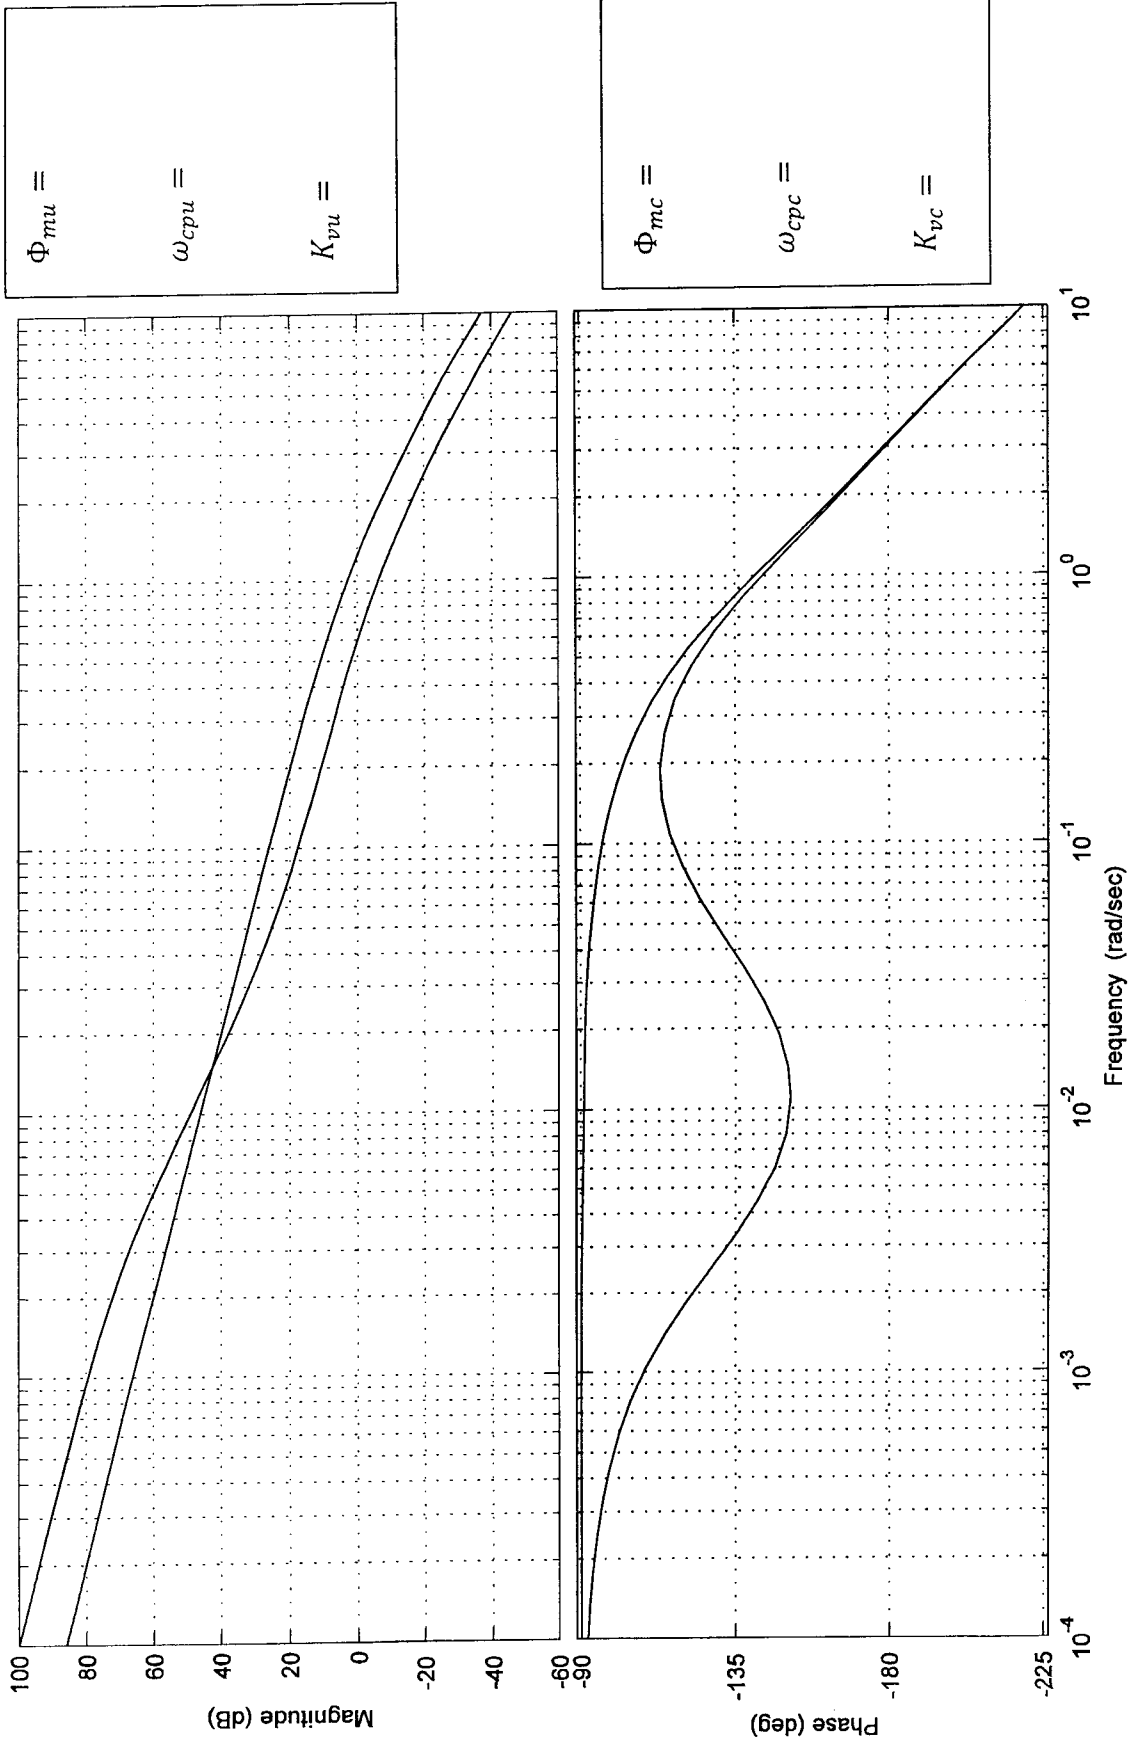

Figure Q6.1: Open Loop Frequency Response Plots of Uncompensated and Compensated Systems
You were in charge of a Controller design for a certain closed loop unit feedback control where the process transfer function was not known, but its open loop frequency response was successfully measured. Compensated system requirements were: Steady State Error to ramp input, $e_{ss(\text{ramp})} = 0.1$ V/V and Percent Overshoot, $PO < 20\%$. Frequency responses of both the compensated and the uncompensated system are shown in Figure Q6.1.
1. Use the plots in Figure Q6.1 to refresh your memory of the design, and remind us whether you used the Lead or the Lag Controller configuration by placing a check mark below:
2. Next, use the plots in Figure Q6.1 to read off the values of uncompensated Phase Margin (Φ_{mu}), uncompensated frequency of the crossover, (ω_{cpu}), uncompensated Velocity Error Constant (K_{vu}), and based on these, calculate these estimates for the **uncompensated** system: $e_{ss(\text{ramp})}$, PO , and $T_{settle(\pm 2\%)}$.
3. Finally, use the plots in Figure Q6.1 to read off the values of compensated Phase Margin (Φ_{mu}), compensated frequency of the crossover, (ω_{cpu}), compensated Velocity Error Constant (K_{vu}), and based on these, calculate these estimates for the **compensated** system: $e_{ss(\text{ramp})}$, PO , and $T_{settle(\pm 2\%)}$.